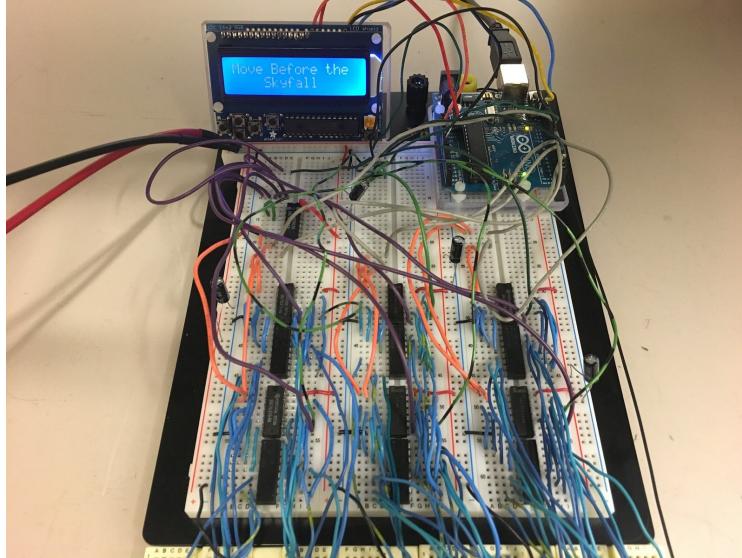

Figure 2. shift registers and 220 Ω resistors
- Each combination of a shift register chip and a resistor chip controls one column of 8 LEDs (Figure 2). For the first six LEDs in each column, the serial data inputs and clock pulses from the arduino are sent to the shift registers and the data outputs from the shift registers are connected to respective 220 Ω resistors and then to the blue LEDs. For the last row of RGB LEDs, the data outputs from the shift registers are connected to the respective 220 Ω resistors then ORed with outputs from the demultiplexer. The outputs from these 6 OR gates are then connected to the RGB LEDs.